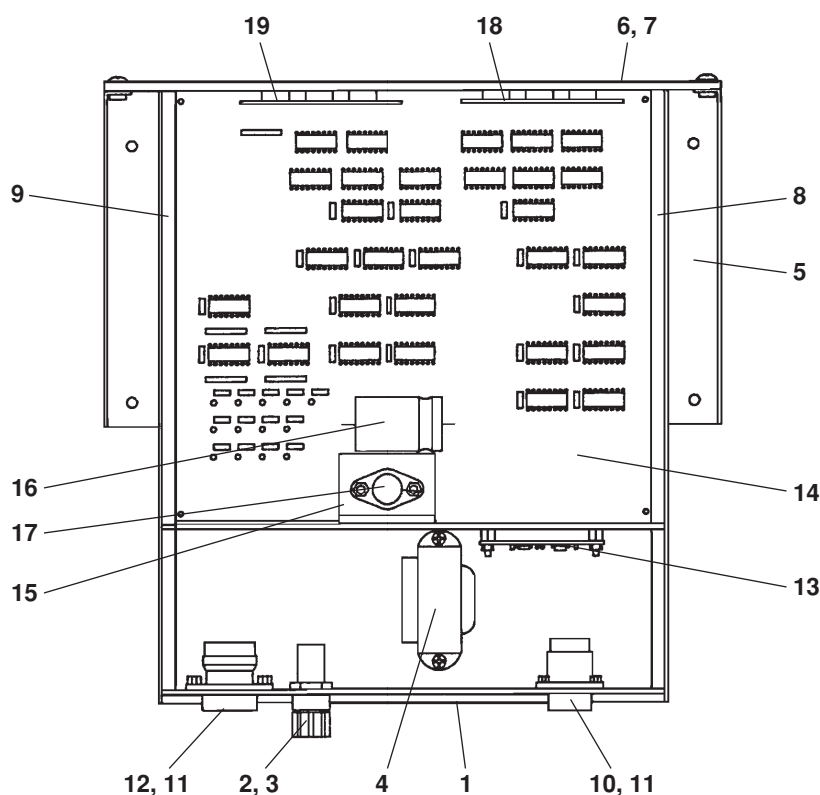

Figure 6-11 Programmable Remote Voltage & Current Control Console
* Items are not shown in Figure 6-11.